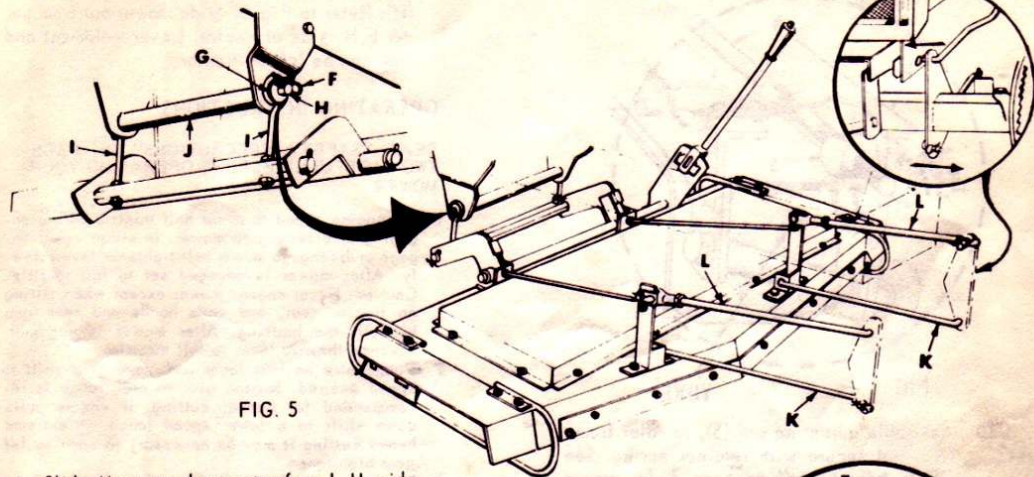

FIG. 5
3. Remove four spring retainers from ends of upper and lower parallel links (L & K) and remove links. Refer to Fig. 5.
3. Normal cutting height is $2\frac{1}{4}$ inches, height of cut can be adjusted by means of lift lever. Moving the lever forward lowers the mower, while moving it backwards raises the mower. The lever latch is actuated by depressing the latch button at the top of the lever handle. Each notch changes the height of cut approximately $\frac{1}{2}$ inch. Should some intermediate height be desired this can be obtained by lengthening or shorting each of the eyebolts (I, Fig. 5) an equal amount. This adjustment does not affect the fore and aft tilt of the mower, since the mower is attached by means of the parallel linkage which causes it to raise and lower the same at the front as at the rear. With lift lever set to height of cut desired and with tractor and mower on level ground adjust gauge wheels so that they clear the ground by approximately $\frac{3}{4}$ inch.